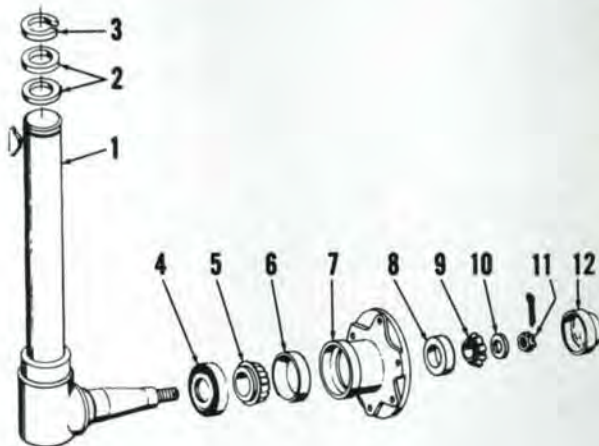
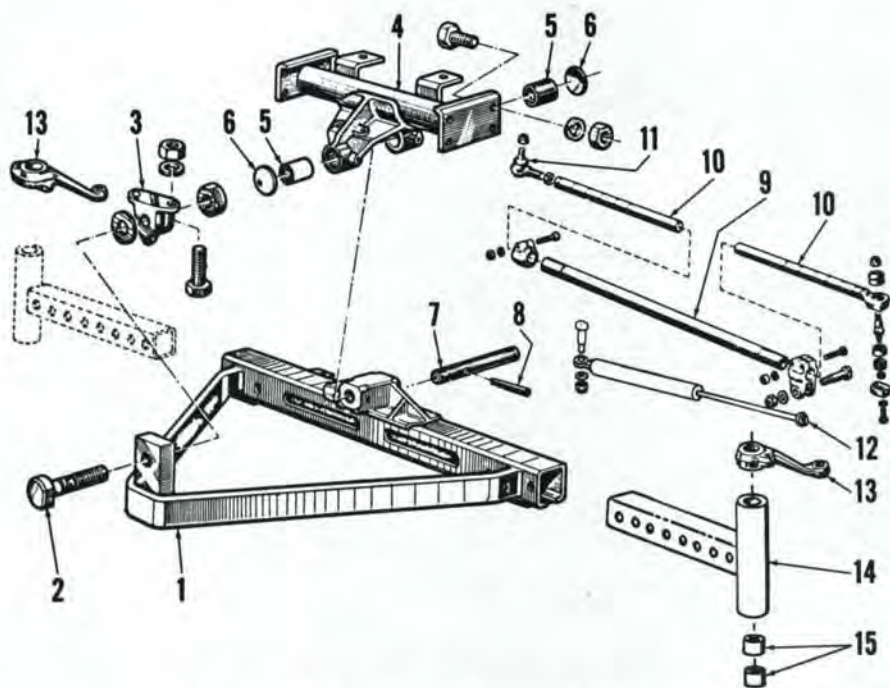

Fig. 1 — Exploded view, spindle and wheel hub.
Fig. 2—Front axle, tie rod, front support and associated parts.
**1. WHEEL ASSEMBLY.** Conventional steel disc wheels are reversible on hubs. Wheel bearings should be cleaned and repacked with No. 2 wheel bearing grease after each 500 hours operation. To adjust, tighten axle spindle nut until a distinct drag is felt, loosen nut one castellation and install new pin. Always renew seal assembly (4—Fig. 1) when bearings are repacked.
**2. AXLE ADJUSTMENTS.** Front wheel tread is adjustable from 52 to 72 inches in 4 inch increments with the wheels dished in and from 57 to 77 inches with the wheels dished out. L&R tie rod extensions (10—Fig. 2) are grooved at 2-inch intervals to correspond to hole spacing in spindle support bars (14) for ease in realignment; however, it is advisable to check and reset toe-in at  $\frac{1}{16}$  to  $\frac{1}{8}$ -
**3. SPINDLE BUSHINGS.** With tractor front supported, remove front wheels, snap ring (3—Fig. 1), steering arm (13—Fig. 2) and Woodruff key. Spindle can then be pushed down in support tube and removed. Drive bushings (15) from tube bore and drive or press in new bushings until flush with tube ends. Spindle bushings are furnished pre-sized and reaming is not normally required. Reinstall thrust washers (2—Fig. 1) on spindle and reassemble. A single grease fitting, located at a midpoint of the spindle support tube, eliminates the need for aligning bushings with lube ports.
**4. FRONT SUPPORT BUSHINGS.** Axle pivot pin bushings (5—Fig. 2) are renewable. New bushings are pre-sized and require no reaming. Defective bushings may be pressed or driven from support (4) when front axle is removed.
First, remove hood, support tractor under flywheel housing, drain coolant and remove radiator hoses. Disconnect cables and remove battery. Disconnect air cleaner duct at partition forward of radiator and flex tube (filter indicator) from air cleaner duct. Remove radiator brace cap screw from top of thermostat cover casting. Drain power steering fluid by separating reservoir to pump tube at coupling located between power steering pump and engine block and collect fluid in a container placed below the axle. Then, remove the tube at reservoir end and set aside. The two remaining flexible lines may then be separated at reservoir fittings, capped or taped off. Remove pins from each end of power steering ram (12—Fig. 2) and secure cylinder with wire hangers from engine front support brackets to prevent damage to hydraulic lines and fittings.